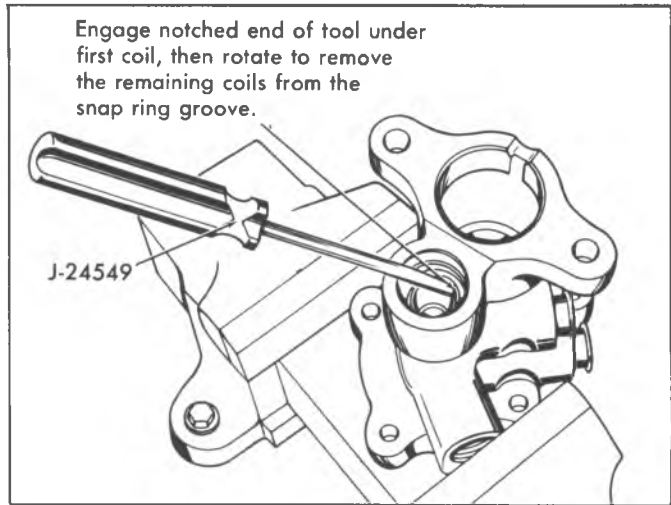

Fig. 5E--Removing Spiral Snap Ring
12. Press in on the end of the spool assembly, and use Snap Ring Removal Tool J-24549 (Fig. 5E) to remove the spiral type snap ring from the groove near the forward end of the spool. The tool is used to engage one coil of the snap ring and then rotated to remove the remaining snap ring coils from the groove in the spool; discard the snap ring.